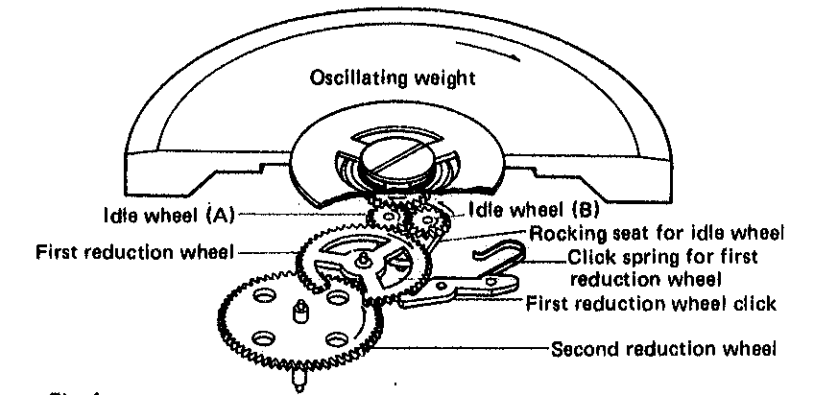

Fig. 1
There are three types of setting levers. They are used according to the structure of cases and types of winding stems. Select a suitable one by the following procedures referring to the shapes indicated in Fig. 1.
(Fig. 1)
(5) Automatic winding mechanism
When the oscillating weight revolves clockwise, the idle wheel (A) turns counterclockwise by action of the oscillating weight pinion; also the rocking seat for idle wheel revolves in the arrow direction. (The pin of the rocking seat for idle wheel revolves in a range of hole of the barrel and train wheel bridge.) In this case, idle wheel (A) transmits force by meshing with the first reduction wheel, and idle wheel (B) is freed from the first reduction wheel (Refer to Fig. 1)